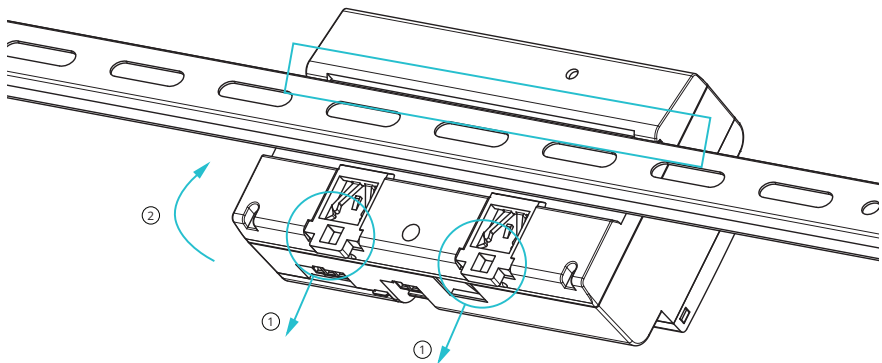

Figure 2-3 Mount AcuDC-260 Series onto DIN Rail Bracket
- 1. From the back of the AcuDC-260 Series, pull down the two clip locks in unison, as shown in ① of Figure 2-3.
- 2. Position the back of the AcuDC-260 Series so it is facing the DIN rail. Place the AcuDC-260 Series two upper mounting brackets over the top of the DIN rail groove. Fit the AcuDC-260 Series onto the bottom mounting bracket as illustrated in ② of Figure 2-3.